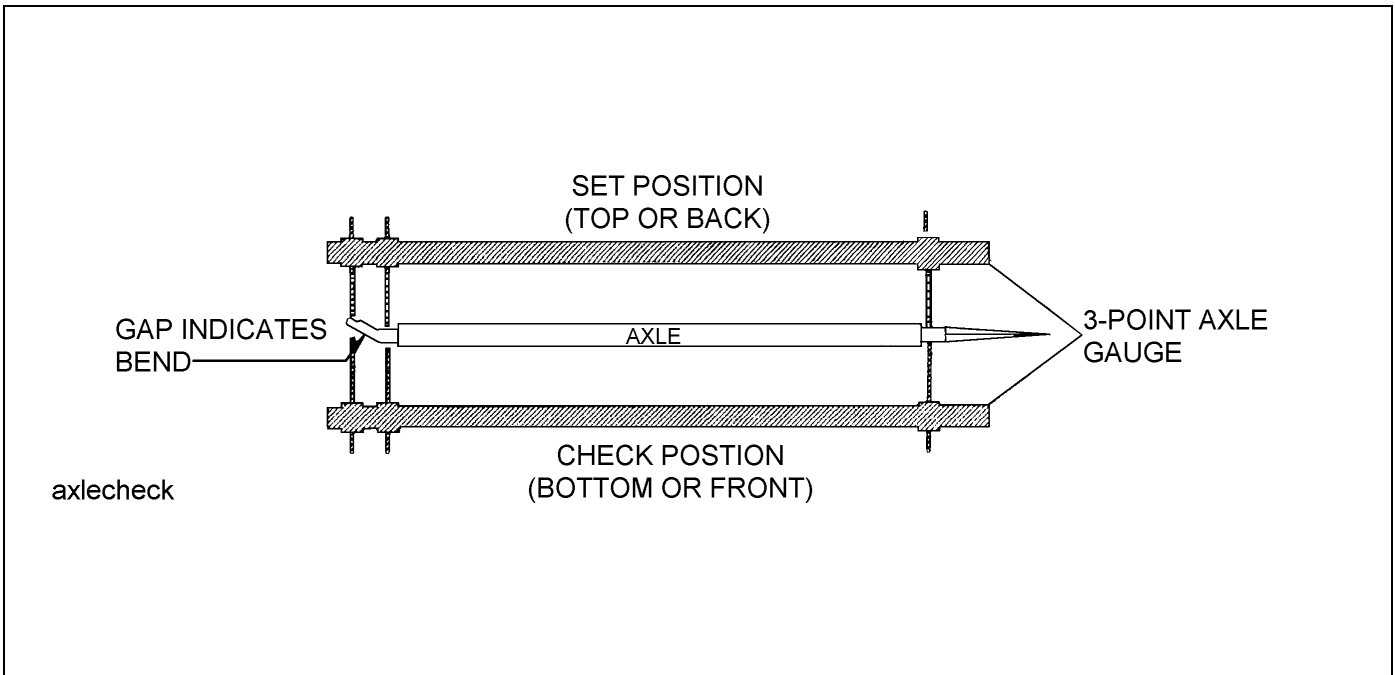

Figure 4-6: Checking Axle for Bend
2. Place a 3-point axle gauge against the front side of the axle, and adjust each axle gauge point to the axle. (Double point end against the inner and outer wheel bearing surfaces of the spindle being checked and the other point on the inner bearing surface on the other spindle.)**(See Figure 4-6.)**